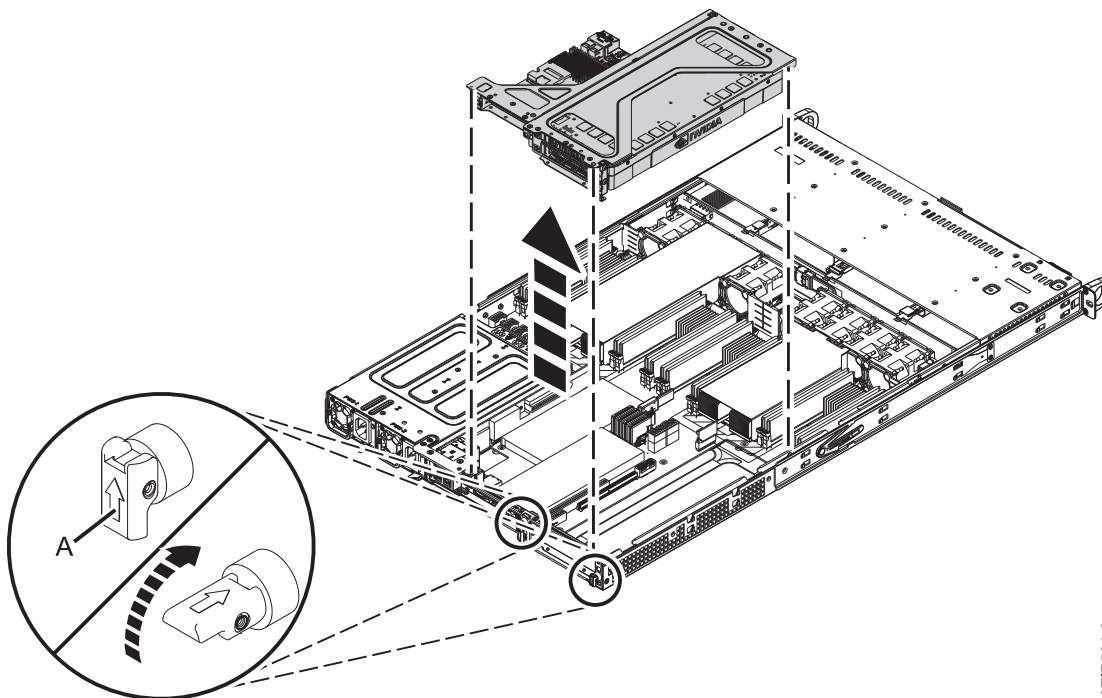

Figure 13. Removing the PCIe riser
3. Remove the PCIe riser as shown in Figure 13.
- a. Retract the retaining pins (A) so that the arrows on the tabs point to the system.